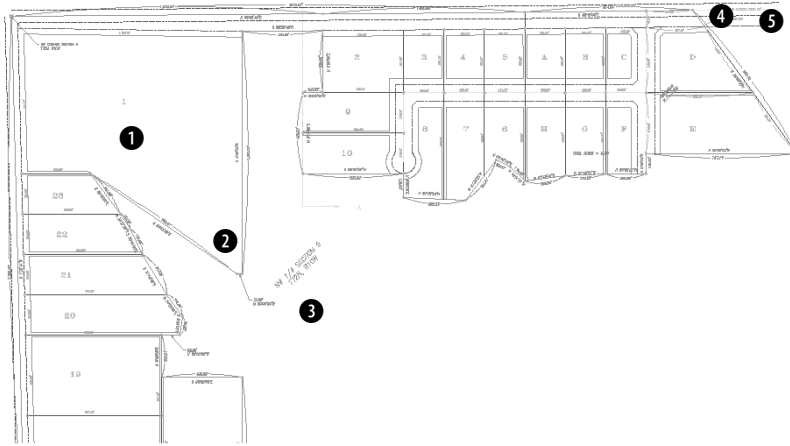

Figure 13-20: The plat drawing.
2. Save the file as ab13-05.dwg in your AutoCAD Bible folder. This is a plat drawing, as shown in Figure 13-20.
3. Choose Multiline Text from the Draw toolbar. At the prompts, pick points ❶ and ❷ in Figure 13-20. The Multiline Text Editor opens. In the Text Height box, change the height to 12.5. In the main editing box, type the following:
5. Open Windows Explorer (right-click the Start button and choose Explore). Find `ab13-c.txt` on your CD-ROM. Move the Windows Explorer window so that you can see both `ab13.txt` and your drawing screen. Drag `ab13-c.txt` from the Windows Explorer window to ❸ in Figure 13-20. If necessary, pick a grip, press the Spacebar once to choose the Move option, and click at the proper location.
8. Choose Zoom Previous on the Standard toolbar to return to your original view. Use Zoom Window to zoom in to the area bounded by ❹ and ❺. Set the current layer to 0 (which is a gray color).
10. At the prompt, pick ❹ and ❺, centering the boundary box around the yellow center line. In the Text Height box of the Text Formatting toolbar, change the text to 12.5. The text style should be ROMANS. Type the following text: